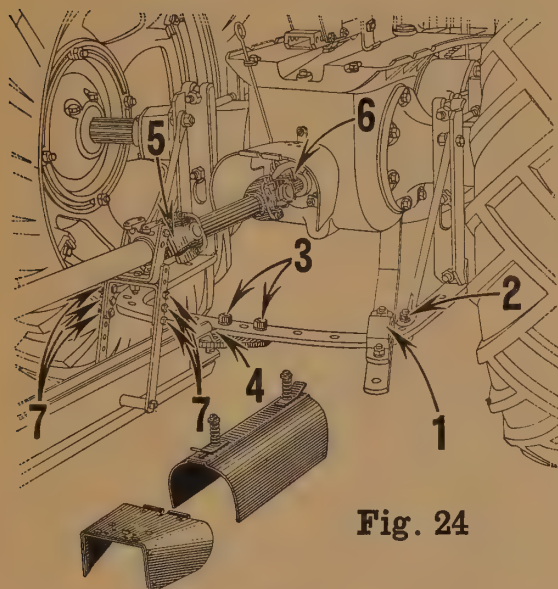

Fig. 24
†1. (Fig. 24.) Move swinging drawbar to the R. H. side of drawbar guide. Secure in this position with a bolt.
2. (Fig. 24.) Bolt tractor drawbar braces to drawbar as shown. This is necessary to locate "point of hitch" at the correct height.
3. (Fig. 24.) Bolt extension drawbar plate to **underside** of tractor drawbar.
4. (Fig. 24.) Connect Binder to extension drawbar plate.
5. (Fig. 24.) Remove tape around key in front end of telescoping pipe for power drive. Remove cap screw, lugged lock washer and notched retaining washer from front end of telescoping pipe. Slide rear universal joint onto front end of telescoping pipe and replace notched retaining washer, lugged lock washer and cap screw. Be sure to fit bent lug on lock washer into notch in retaining washer and to bend remaining lugs on lock washer over head of cap screw.
6. (Fig. 24.) Slide front splined universal joint onto take-off shaft on tractor and secure in place with clamp bolt and cotter.
7. (Fig. 24.) Adjust the height of power shaft front bearing as shown.